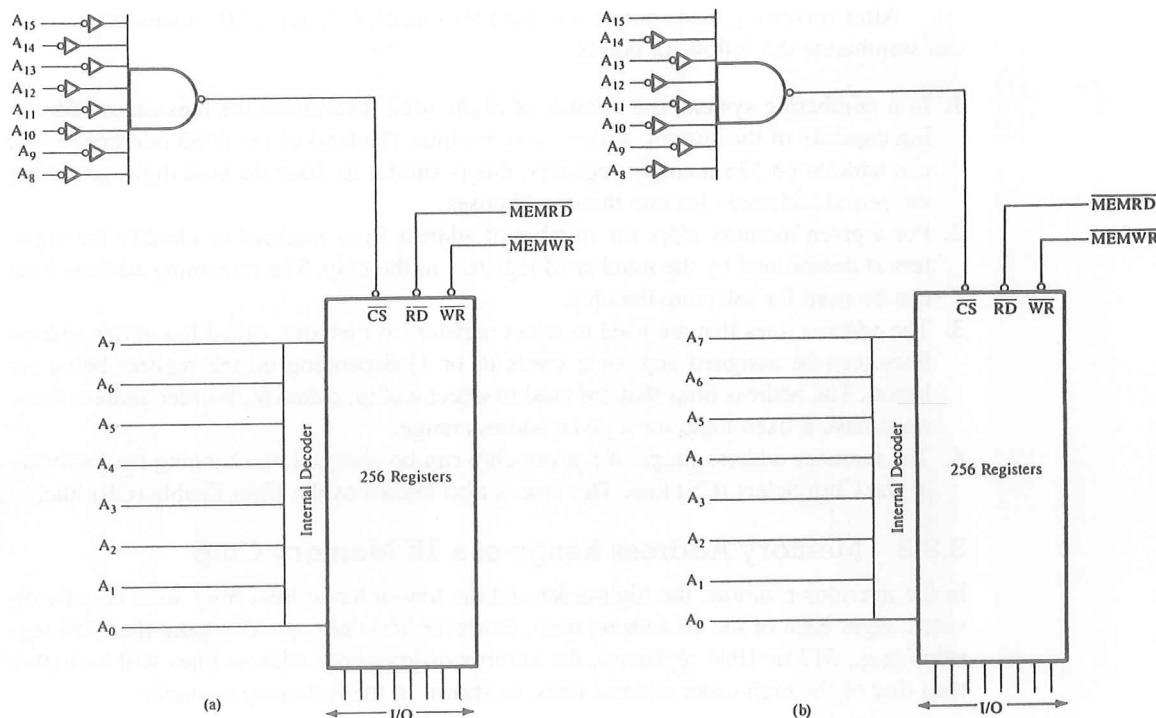

FIGURE 3.10
Illustrate the memory address range of the chip with 256 bytes of memory, shown in Figure 3.10(a), and explain how the range can be changed by modifying the hardware of the Chip Select CS line in Figure 3.10(b).
Figure 3.10(a) shows a memory chip with 256 registers with eight I/O lines; the memory size of the chip is expressed as 256×8 . It has eight address lines (A_7-A_0), one Chip Select signal (CS) (active low), and two control signals Read (RD) and Write (WR). The eight address lines (A_7-A_0) of the microprocessor are required to identify 256 memory registers. The remaining eight lines ($A_{15}-A_8$) are connected to the Chip Select (CS) line through inverters and the NAND gate. The memory chip is enabled or selected when CS goes low. Therefore, to select the chip, the address lines $A_{15}-A_8$ should be at logic 0, which will cause the output of the NAND gate to go low. No other logic levels on the lines $A_{15}-A_8$ can select the chip. Once the chip is selected (enabled), the remaining address lines A_7-A_0 can assume any combination from 00H to FFH and identify any of the 256 memory registers through the decoder. Therefore, the memory addresses of the chip in Figure 3.10(a) will range from 0000H to 00FFH, as shown below.
are used to select a register, are called low-order address lines, and they can be assigned logic levels from all 0s to all 1s and any in-between combination. For example, when the address lines A₇–A₀ are all 0s, the register number 0 is selected, and when they are all 1s, the register number 255 (FFH) is selected. The Chip Select addresses are determined by the hardware (the inverters and NAND gate); therefore, the memory addresses of the chip can be changed by modifying the hardware. For example, if the inverter on line A₁₅ is removed, as shown in Figure 3.10(b), the address required on A₁₅–A₈ to enable the chip will be as follows:
The memory address range in Figure 3.10(b) will be 8000H to 80FFH.
The memory chips in Figures 3.10(a) and (b) are the same chips. However, by changing the hardware of the Chip Select logic, the location of the memory in the map can be changed, and memory can be assigned addresses in various locations over the entire map of 0000 to FFFFH.